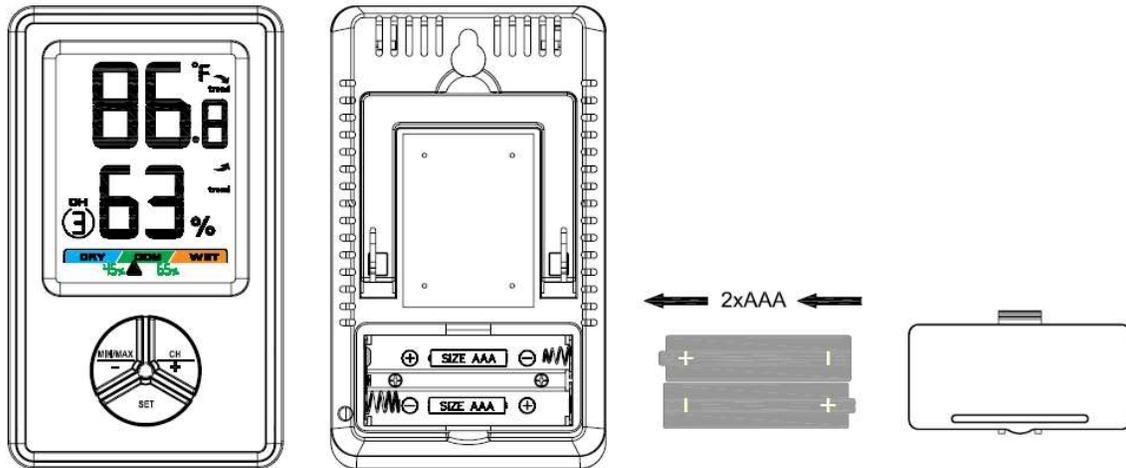

Figure 1
1. Remove the battery door on the back of the display, as shown in Figure 1. Insert two AAA (alkaline or lithium, avoid rechargeable) batteries in the back of the indoor sensor.